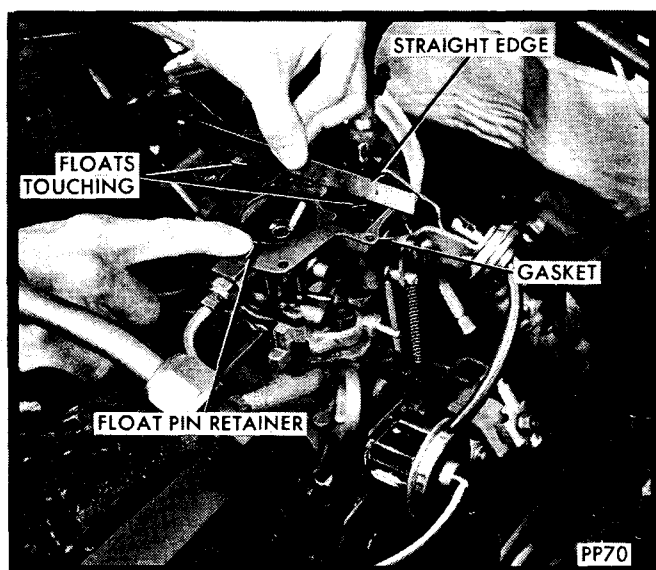

Fig. 3—Seating Float Pin Retainer
(12) Firmly seat the float pin retainer by hand while measuring float height with a straight edge across the gasket surface. The portion of the float lungs farthest from the fuel inlet should just touch the straight edge (Fig. 3). If adjustment is necessary, bend the float tang.